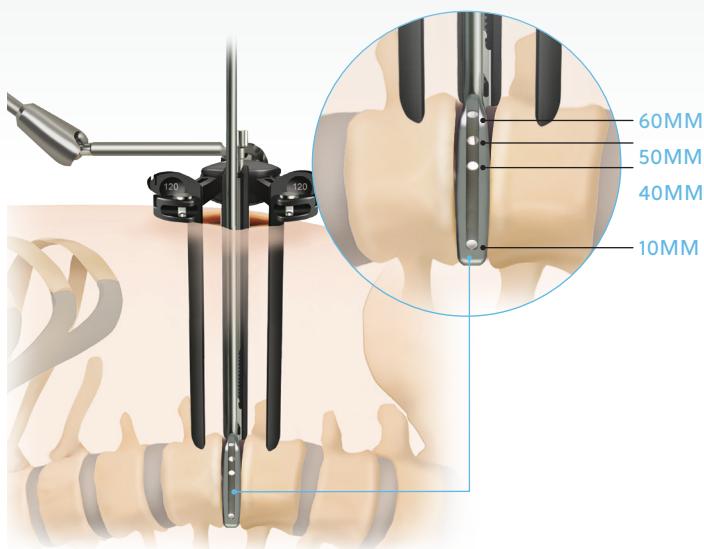

Figure 36a
- Holes are placed 10mm, 40mm, 50mm and 60mm from the tip of the trial (**Figures 36a, b**).